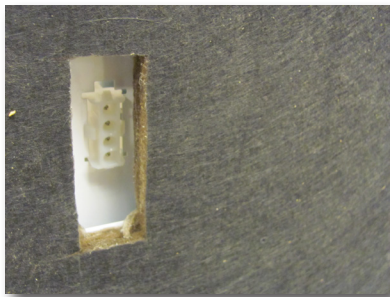

Fig. 6a
6. Plug in the 4-prong motor plug (male) into the female connection on the bottom side of the external box. (Figs. 6a-6c)